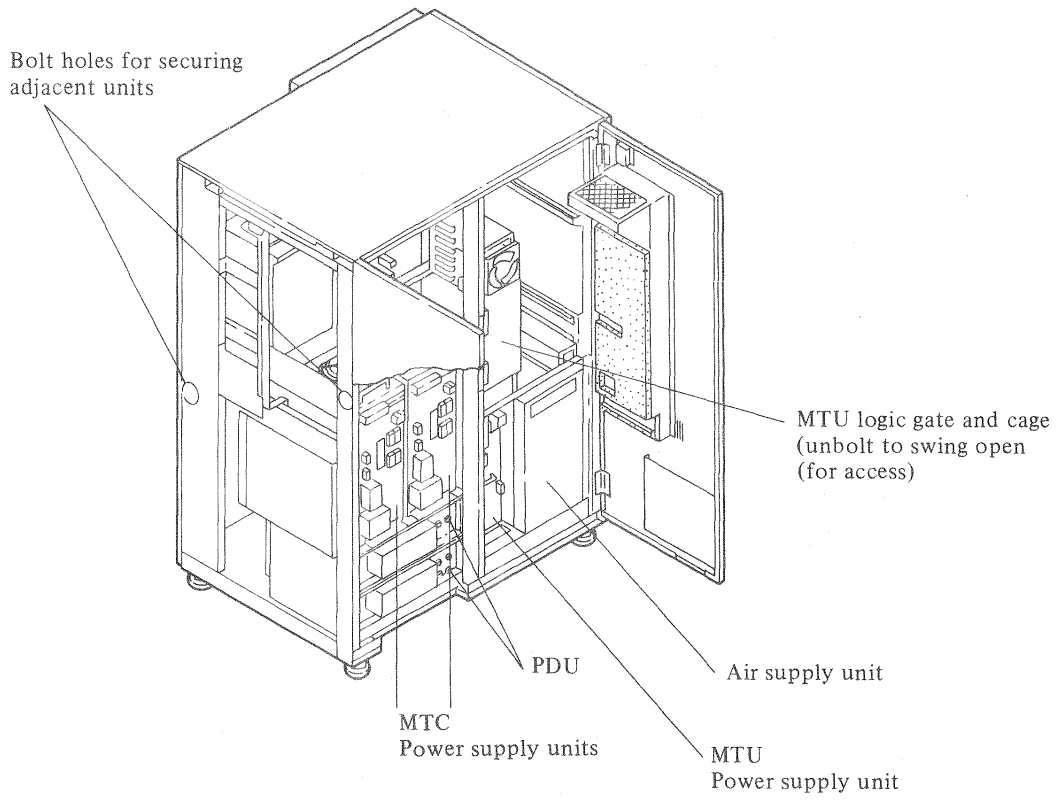

Figure 1.4 Master unit (rear view)
- (1) Pull the PDU to the side and remove the rear cover (Figure 2.1). The location of the PDU is shown in Figure 1.4. The PDUs are delivered inside A overhead package (new equipment only.)
- (1) Remove the covers of the input selection terminals of the MTC and MTU power supplies. The location of MTU and MTC power supply units are shown in Figure 1.4. These covers are located at the rear of the MTU and MTC and are labeled INPUT VOLTAGE SELECTION.
- (2) Select the MTC terminal that corresponds to the voltage label, and connect a jumper between that terminal and COM.
- (3) Select the MTU terminal that corresponds to the voltage label, and connect the red lead to that terminal and the black lead to COM.
- (4) Reinstall the covers on the MTC and MTU power supplies.